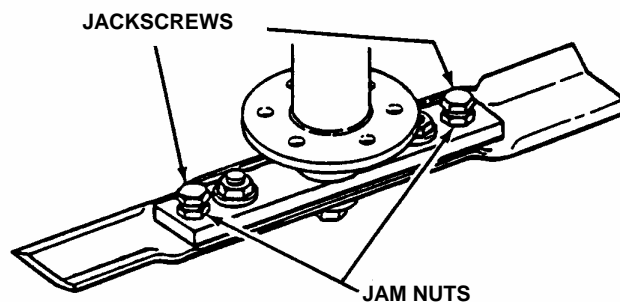

FIGURE 4.7
- b. Adjust jackscrews "IN" or "OUT" until blade tip measurements are within 1/16" of each other and blade tips are 3/8" away from deck lip. See Figure 4.7.